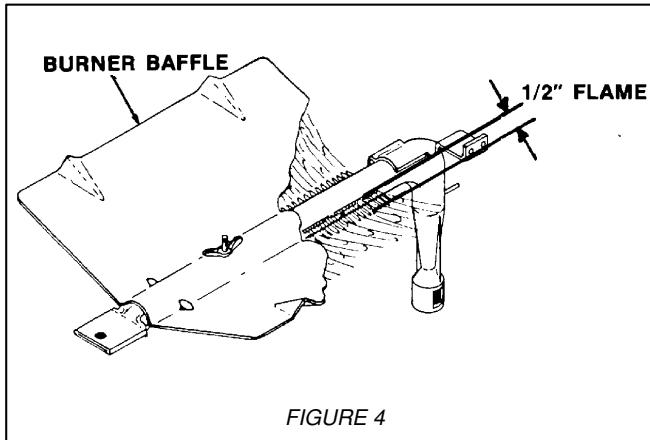

FIGURE 4
- a. The approximate length of the flame of oven burner is a 1/2 inch distinct blue flame, figure 4.